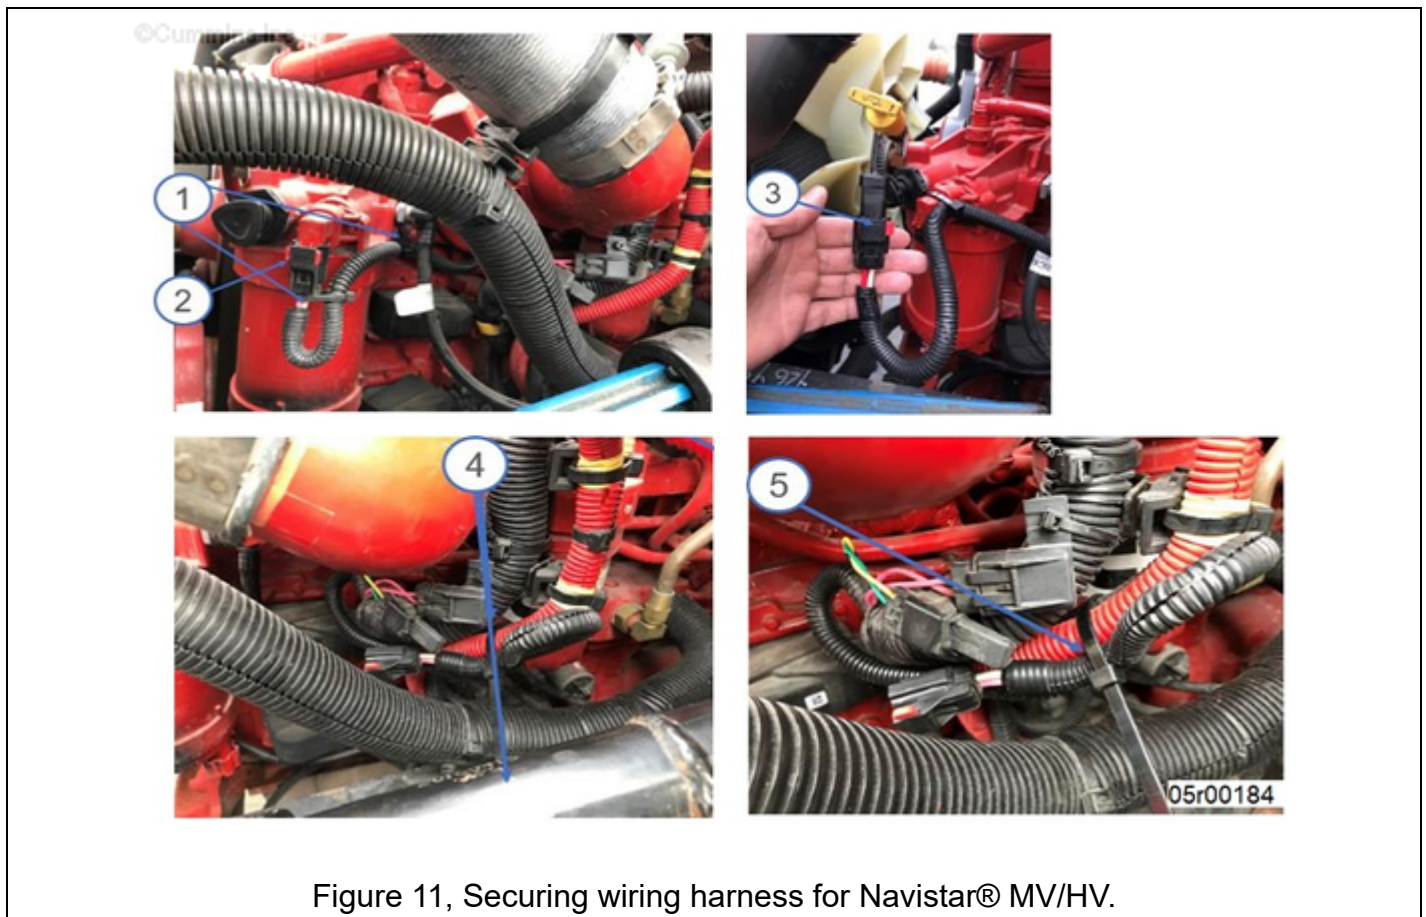

Figure 11, Securing wiring harness for Navistar® MV/HV.
1. Remove cable ties. See Figure 11 below.
2. Unlock and remove fuel heater connector by moving red tab to the right. See Figure 11 below.
3. Install mating connector with plugs (supplied in kit part number 5579133) and lock into place by moving red tab to the left. See Figure 11 below.
4. Verify mating connector is installed. Verify wiring harness is **not** contacting pipe. See Figure 11 below.
5. Bundle harness branch to main harness with cable tie. Trim excess cable tie. See Figure 11 below.